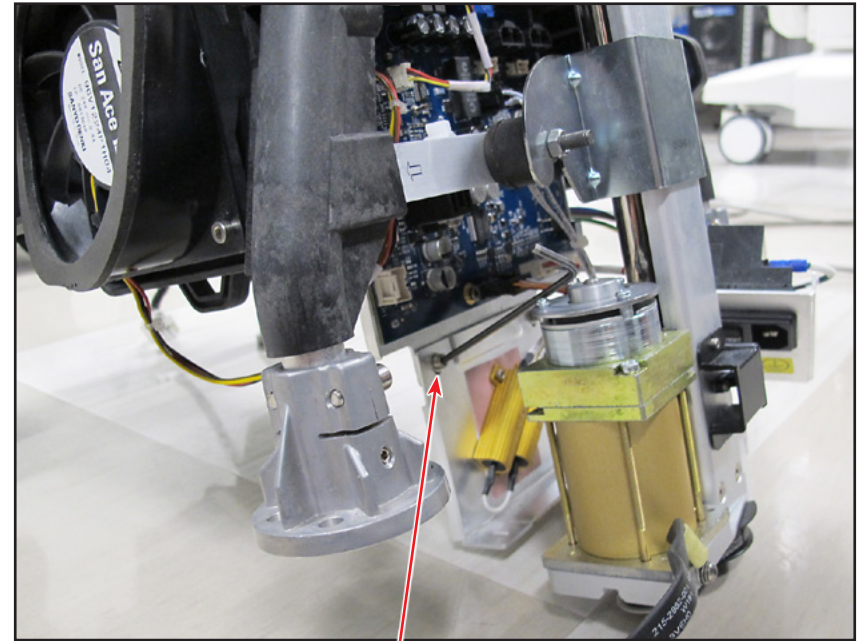

Figure 3-59 Load Bracket Screws
45.20 On the console, loosen two 3mm screws securing the cable load bracket to the bottom of the MFIO PCB assembly (see Figure 3-59). This will allow for fitting adjustments when attaching the new base. Be sure to adjust for proper fit and re-tighten when new base is attached.